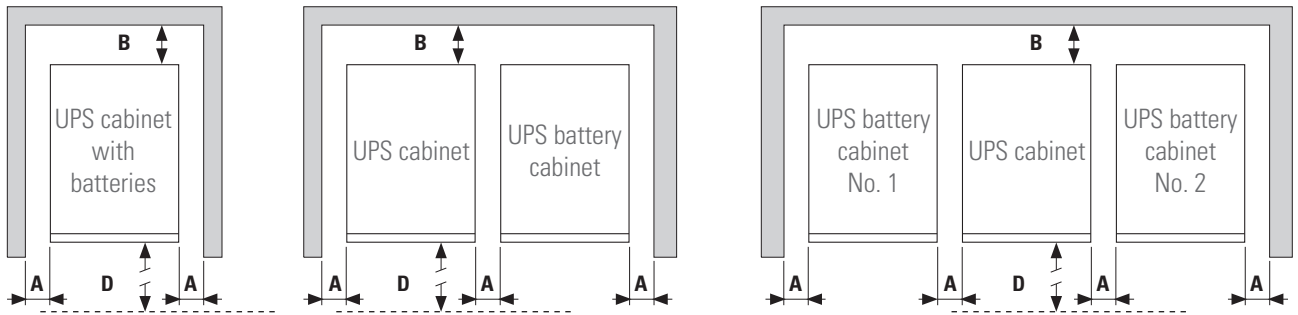

Fig. 6. Minimum peripheral distances for UPS ventilation.
- Fig. 6 shows, by way of example, typical cases depending on the model. That which consists of a single enclosure (UPS with batteries inside) and that with the UPS with batteries in a separate enclosure or extended backup.